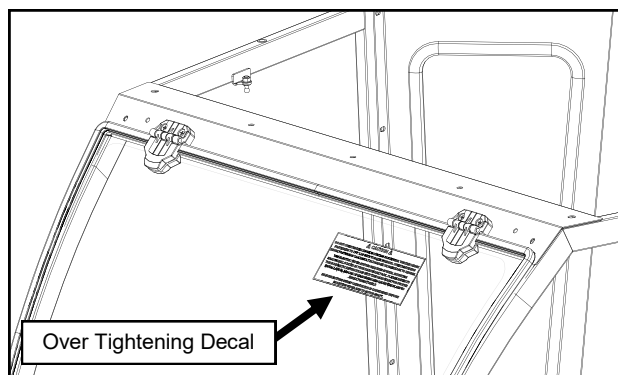

Fig. 12.5 (Decal Removal)
- 12.5** Remove the over-tightening caution decal from the top of the windshield. See Figure 12.5.